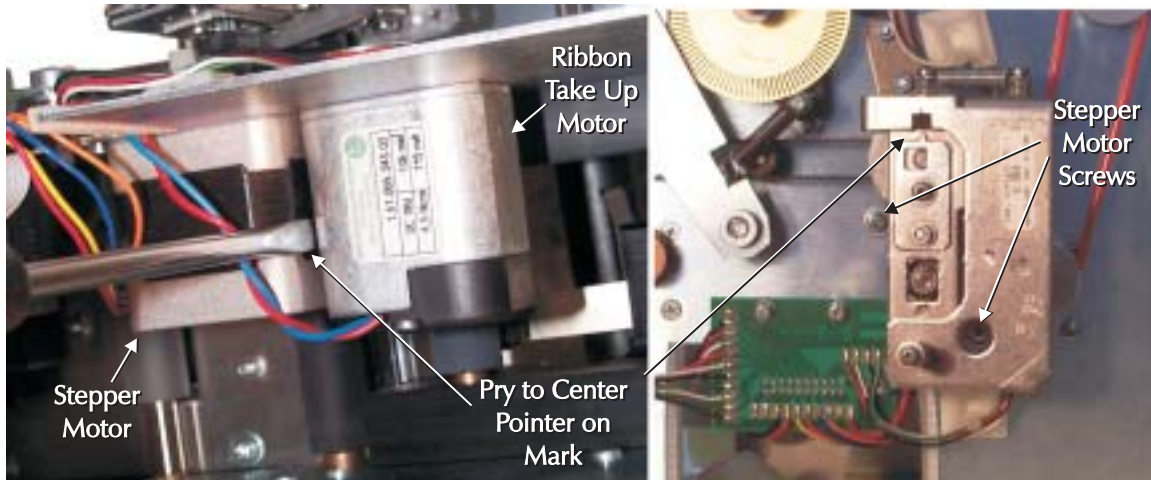

Figure 6-9. Stepper Belt Tensioning.
Step 6. As shown in Figure 6-9, use a screwdriver as a pry-bar to move the Stepper Motor away from the Ribbon Take Up Motor to a position the pointer on the fixture aligns with the center marker.